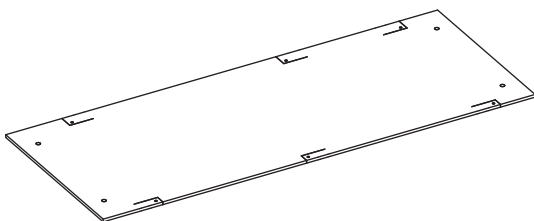

Figure 4.9
- 4.1) Fold the installation paper, making sure that you fold in a direction such that the surface without text is protruding (Figures 4.9 - 4.10);